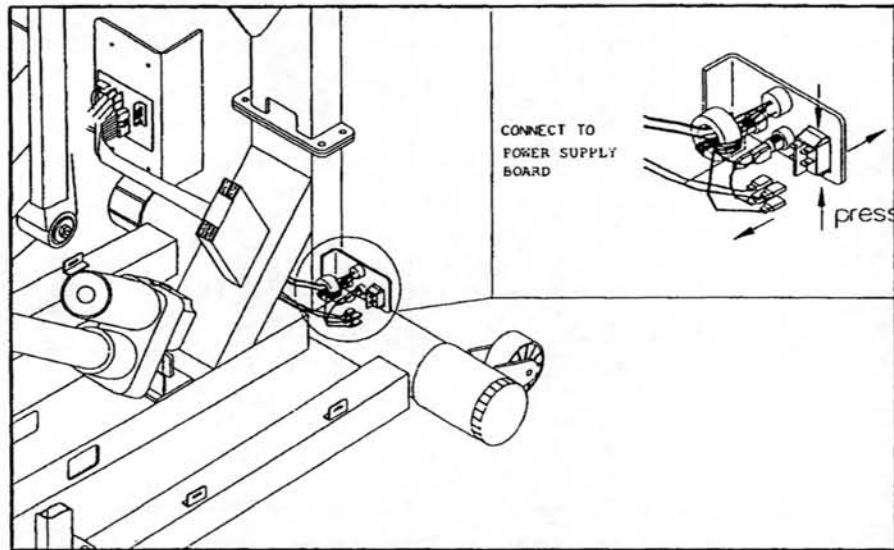

Fig.20-1
1. Pull out all the plugs which connecting the POWER SWITCH and press the FIXED CLIP OF THE POWER SWITCH and take it off. (see fig.20-1)